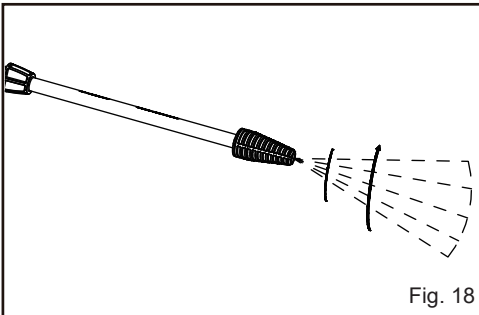

Fig. 18
- The turbo lance features a 0° pencil jet which rotates 360° for maximum dirt cutting action, effectively increasing cleaning performance up to 50%. This nozzle combines the cleaning performance of a 0° pencil jet with the surface coverage of a wide angle nozzle (Fig. 18).